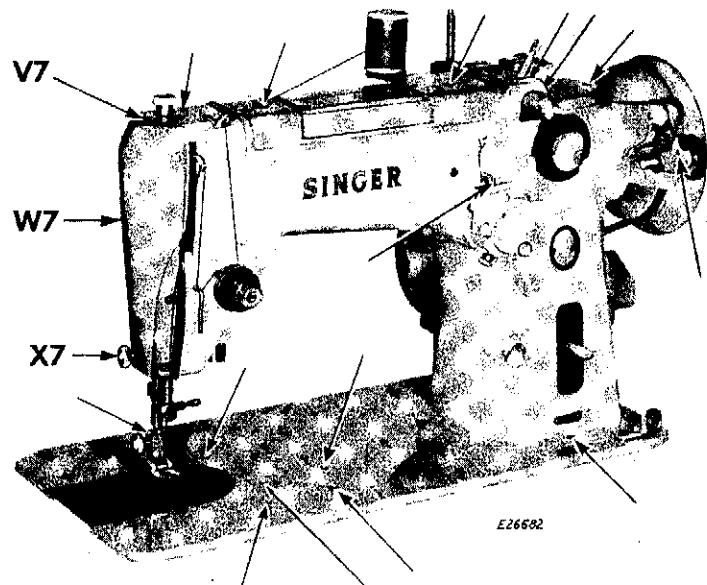

Fig. 259. Front View—Showing Oiling Points
- Occasionally apply a drop of oil to all points indicated by unlettered arrows in Figs. 259 to 264.
Remove face plate **W7**, Fig. 259 by taking out thumb screw **X7**, and slipping plate up and off screw at **V7**.